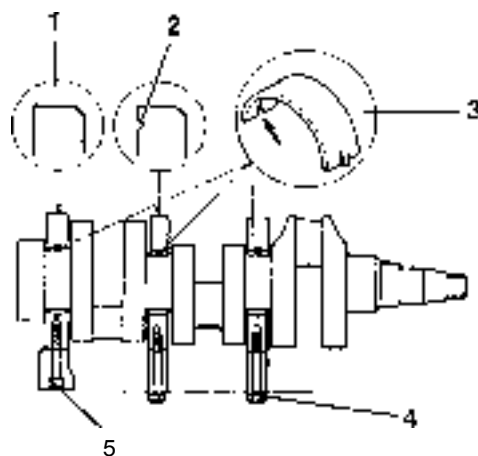

Fig. 79a. Fitting of main bearing cap MD2010, MD2020, MD2030
Note : The bevelled edge (1, Fig. 79a and 79b) should be turned forwards on all caps.
- Fit the cap which is provided with a groove as per 2, Fig. 79a and 79b.
Note: The bearing cups provided with an oil groove (3, Fig. 79a and 79b) should be placed in the **top** cap.